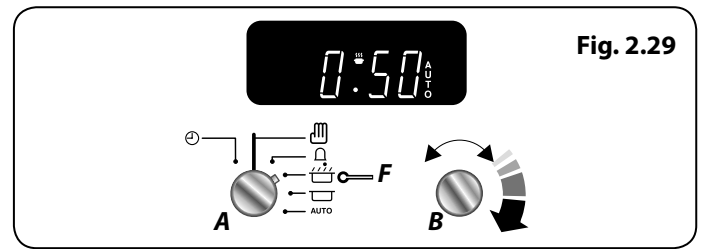

Fig. 2.29
1. Turn the **Timer (A)** knob to the **Cook Time (F)** setting. Turn the **Adjusting (B)** knob clockwise to set the length of the cooking time required e.g. 50 seconds (**Fig. 2.29**).